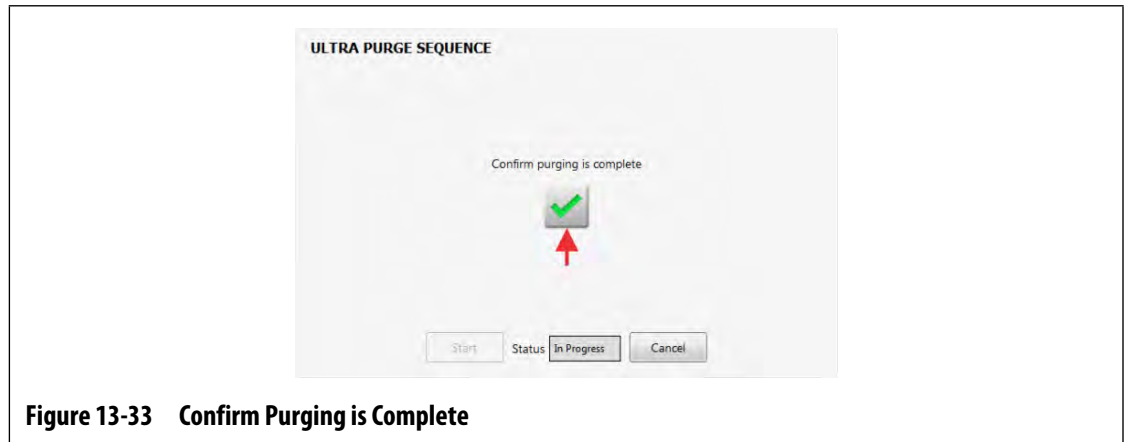

Figure 13-33 Confirm Purging is Complete
- Touch the green check mark button to confirm that the purging has completed (Figure 13-33).